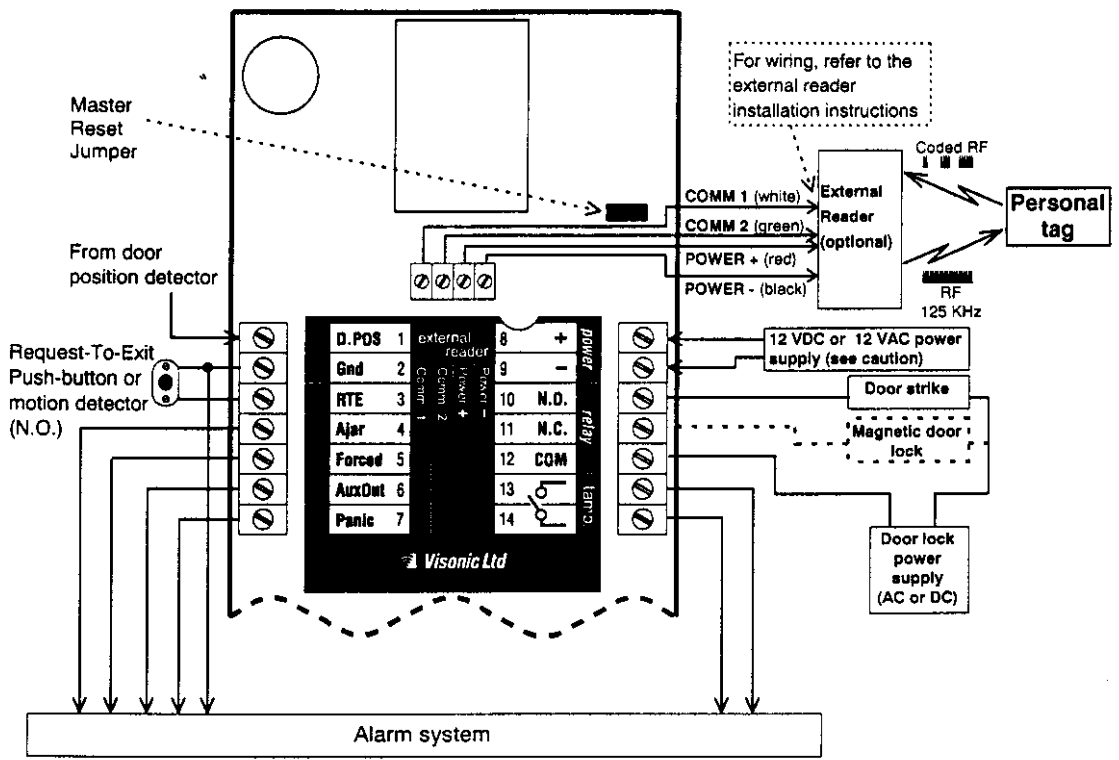

Figure 6 - Wiring diagram for Integration with an alarm system
5.2 Wiring Procedure (Fig. 6)
- A. Remove the Master Reset Jumper (fig. 6). The TIAB buzzer will start beeping.